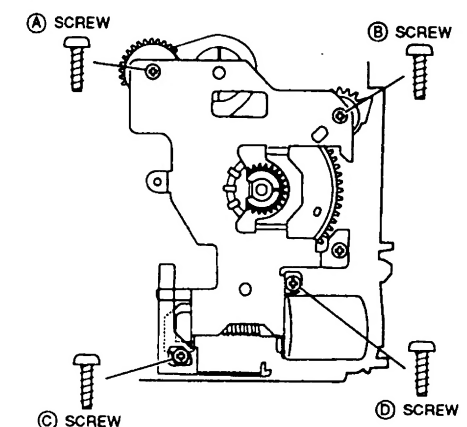

Fig 8.
- 2: Remove the (A), (B), and (D) screws then remove the LOADING DRIVE BLOCK as shown in Fig 8.